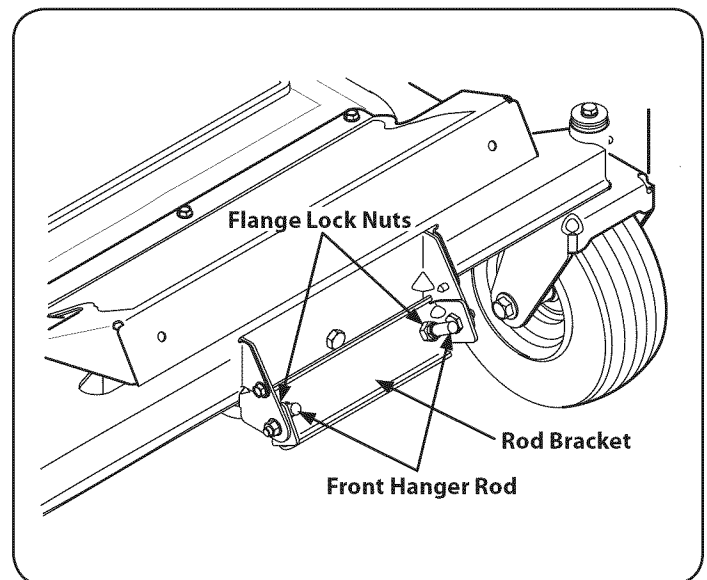

Figure 34
5. If the front of the deck was too low, turn the flange lock nuts clockwise against the hanger bracket to shorten the front hanger rod and raise the front of the deck. Refer to Figure 34.
- b. Make certain the belt is in the spindle pulleys of the deck, and that the backside of the belt is against both the fixed and movable idler pulleys. Refer to Figure 34.